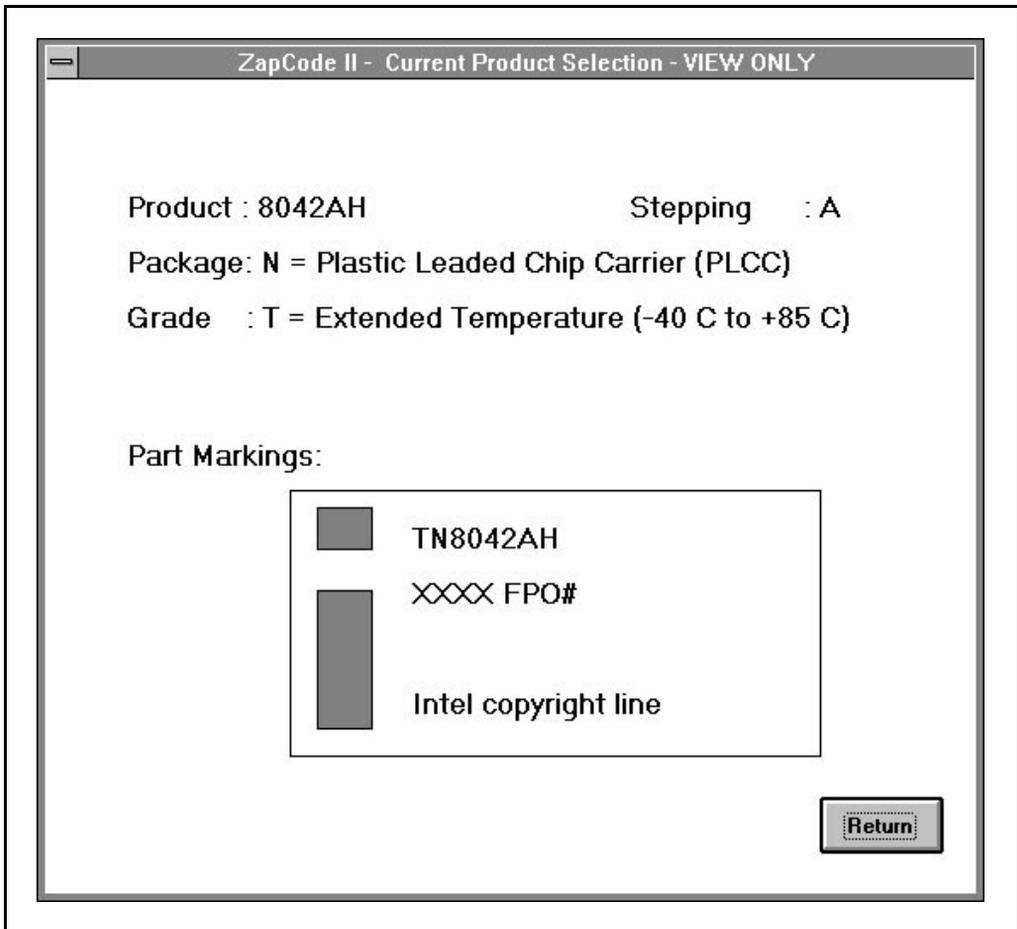

Figure 8-8. Example of a Part Marking Screen
11. Click on the **View** button. The Current Product Selection screen shows the options you have selected, including the part marking. Figure 8-8 shows an example.
The **View Product Selection** screen shows the options you have selected, including the part marking. Figure 8-8 shows an example.